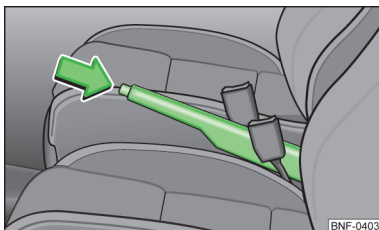

Fig. 79
- Pull the handbrake lever up slightly **and at the same time** push in the locking button » Fig. 79 .